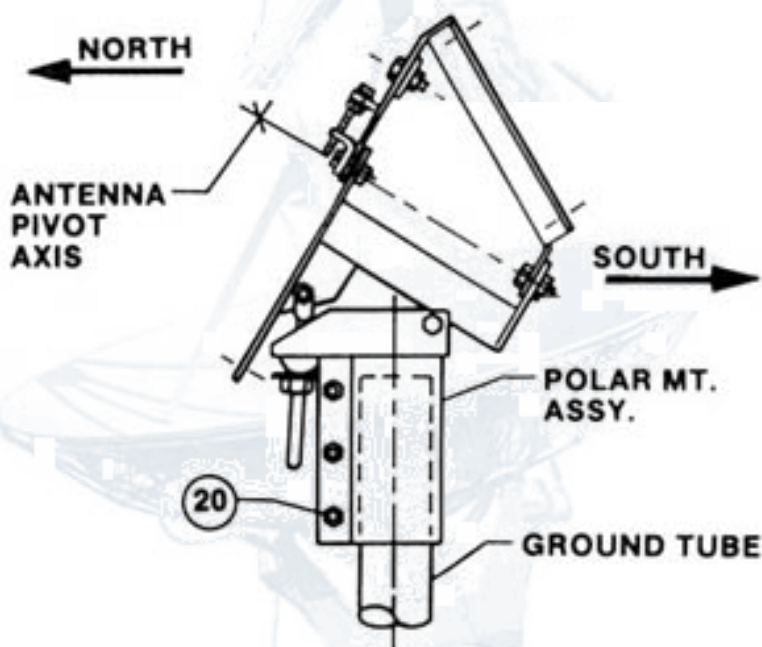

FIG. 2.0 INSTALLING POLAR MOUNT ONTO GROUND TUBE
After ground tube foundation Concrete has cured, slide assembled polar mount onto ground tube. Swivel polar mount on tube until the antenna pivot axis points approximately North. Tighten the M8 (5/16") hex nuts (20) so that the mount is held stationary on the tube, but can be swiveled with slight pressure (Ref. Fig. 2.0).